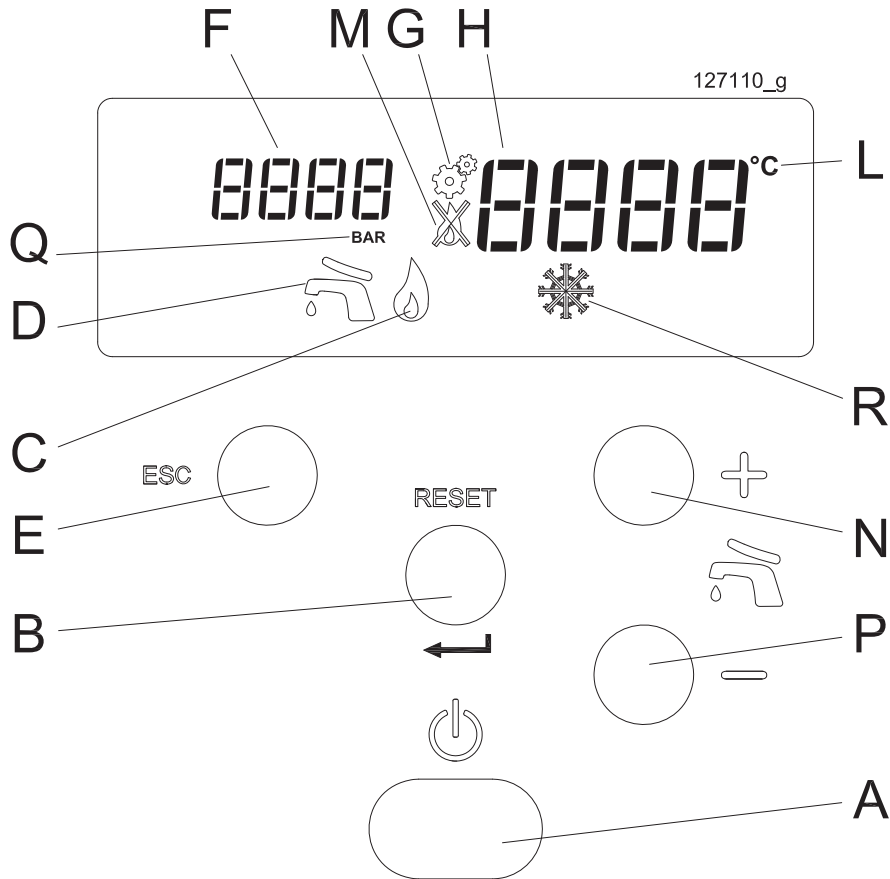

Figure 7-1 – Control board
- 1.- Turn on the appliance using switch "A" in Figure 7-1;
Figure 7-1 key
The temperature of the domestic hot water is adjusted using the  and  keys. Once one of the two keys has been pressed, the display "H" in Figure 7-1 starts to flash and show the temperature that is being set. The temperature of the domestic hot water can be set to between 40°C and 60°C.
By pressing and holding the  key down even below 40°C, the message "OFF" appears which indicates that the domestic hot water service is being switched off. The icon "D" in Figure 7-1 also switches off.
Figure 7-1 shows parameter **0.000**.